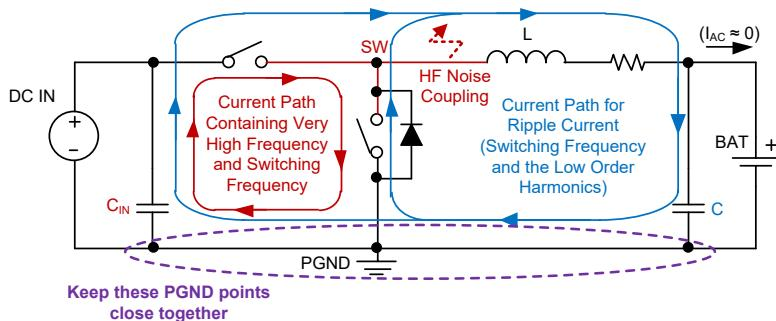

Figure 15. Graphical Representation of the Switching and Transient Current Loops, and Capacitive Noise Coupling from SW Node
1. The switching node (SW) creates very high frequency noises several times higher than f_{sw} (1.6MHz) due to sharp rise and fall times of the voltage and current in the switches. To reduce the ringing issues and noise generation, it is important to minimize impedance and loop area of the AC current paths. A graphical guideline for the current loops and their frequency content is provided in Figure 15.